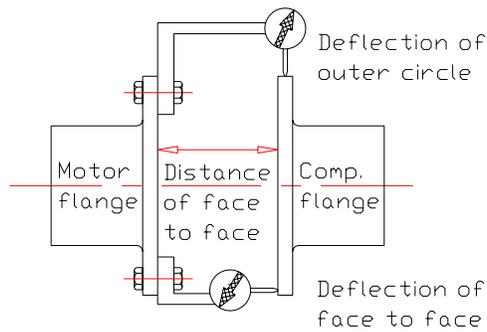

Fig. 37
- b) The life expectancy of a coupling is affected by the amount of misalignment, therefore refer to Table 13 (Fig.37) for tolerances.